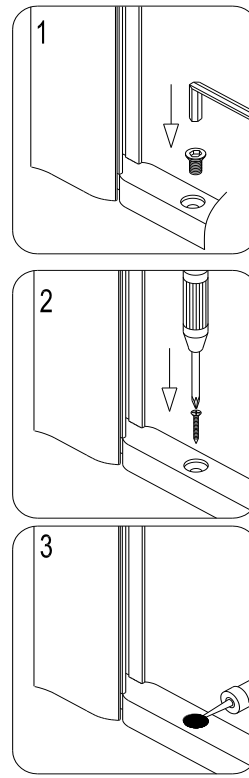

Fig. 12
12. Place the **Hex socket flat head bolt M6x12 (28)** to the bottom **Pivot bracket (17)** or you can drill through the screw hole, apply silicone and secure it using **Countersunk screw M4.2 x25 (24)**. See Fig. 12 for details.